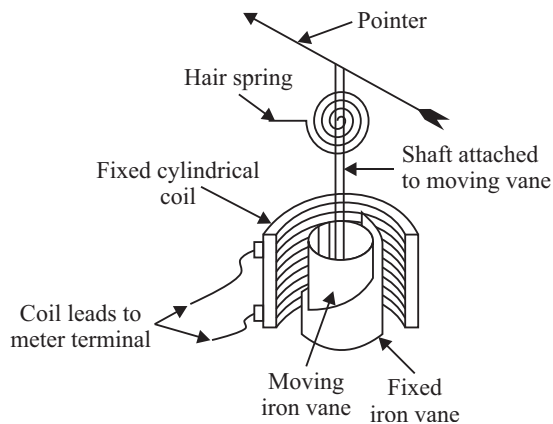

Fig. 1
1. Repulsion (or double iron) type (figure 1)